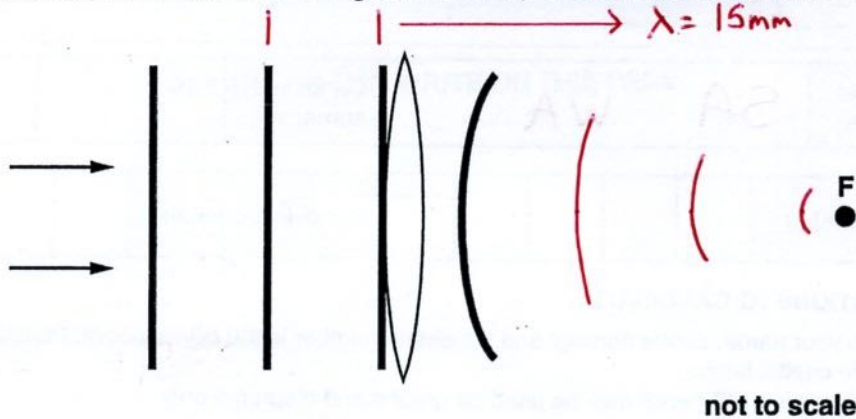

Fig. 2.1
- 2 Fig. 2.1 shows three wavefronts of the light from a very distant object incident on a lens.
- (b) On Fig. 2.1 one wavefront of the light between the lens, and F, the principal focus of the lens, has been drawn.